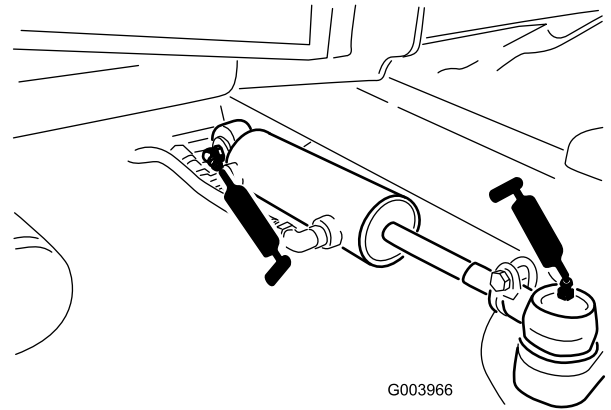

Figure 58
- Steering cylinder ball joints (2) (Figure 58)